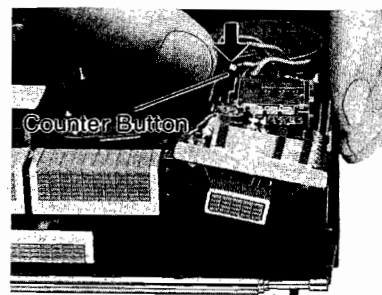

Fig. 13
- ※ 6. Insert the circuit board pushing the counter button, as shown in Fig. 13.